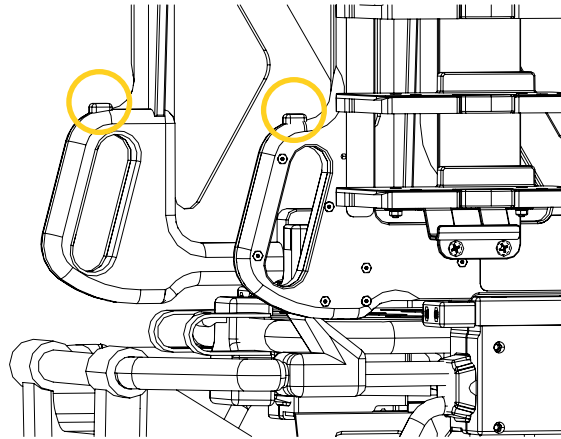

Figure 28: Mobile structure quick release mechanisms
12. Grab the mobile structure handles, then press and hold the quick release mechanisms (Figure 28).